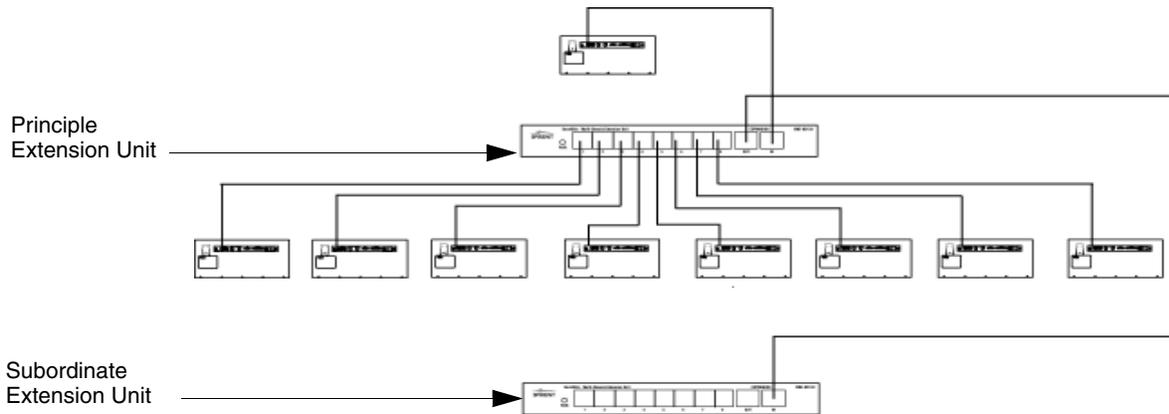

Figure A-11. Connecting an Extension Unit to Another Extension Unit
- You can connect another extension unit to the *Principle Extension Unit* by connecting a cable from the OUT expansion port of the *Principle Extension Unit* to the IN port of the *Subordinate Extension Unit* as shown in *Figure A-11*. You may continue adding extension units and chassis until you reach 512 chassis.